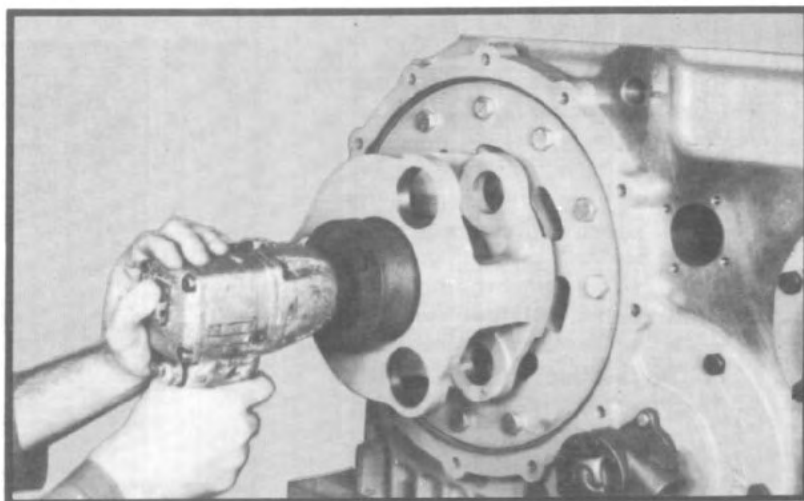

Fig. 150
3.16 Tighten special nut on rear of lower shaft to correct torque, using a special wrench. (See tool reference, Section X and fig. 150.)